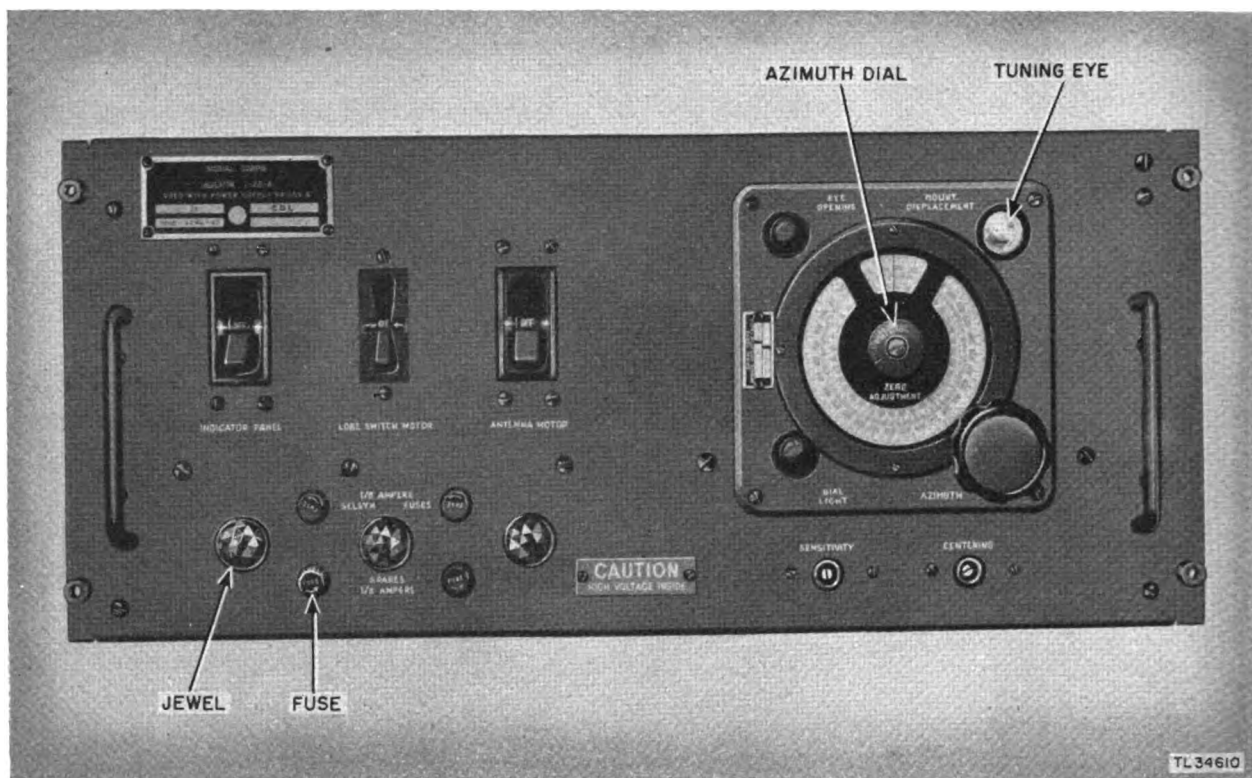

Figure 15. Indicator chassis—front panel.
- a. LOCATION (fig. 15).
- (1) The fuses for general condition.
- (2) The setscrews of the potentiometer knobs for tightness.
- (3) The assembly screws for tightness. Do not disturb the screw driver adjustments marked.
- (4) The jewels of pilot for general condition.
- (5) Azimuth dial for cleanliness. Do not disturb the zero adjustment.
(6) The front panel for cleanliness and tightness of assembly.